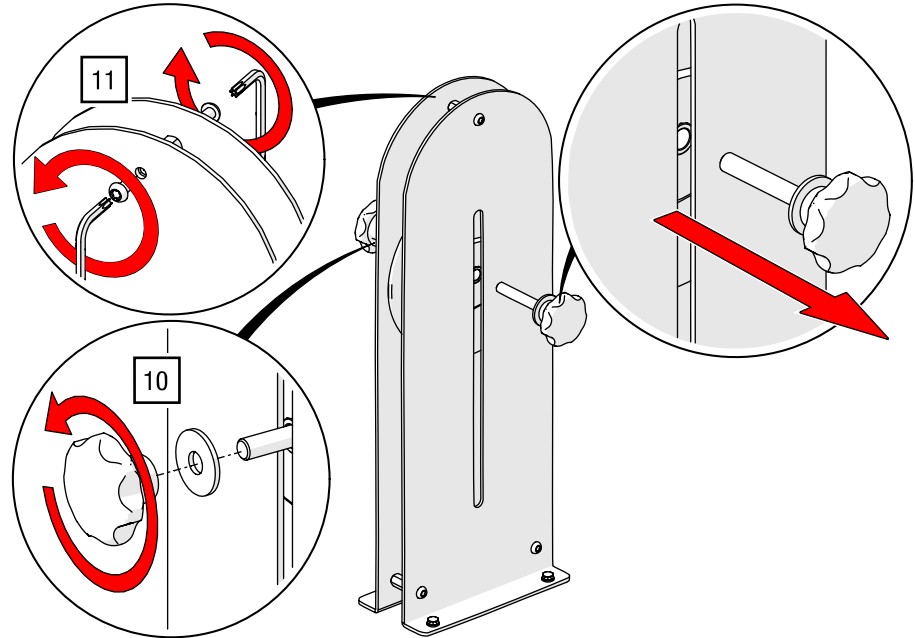

Fig. 121: Manual drive ROPE-DRIVE – Remove pulley from hemp rope floor pulley
10. Revolve the screw connection of the hemp rope floor pulley on the star handles, pull out the axle screw, and remove the pulley (see Fig. 121).
11. Remove the long nut above the roller by loosening the two screws with a TORX®-key T40 (see Fig. 121).